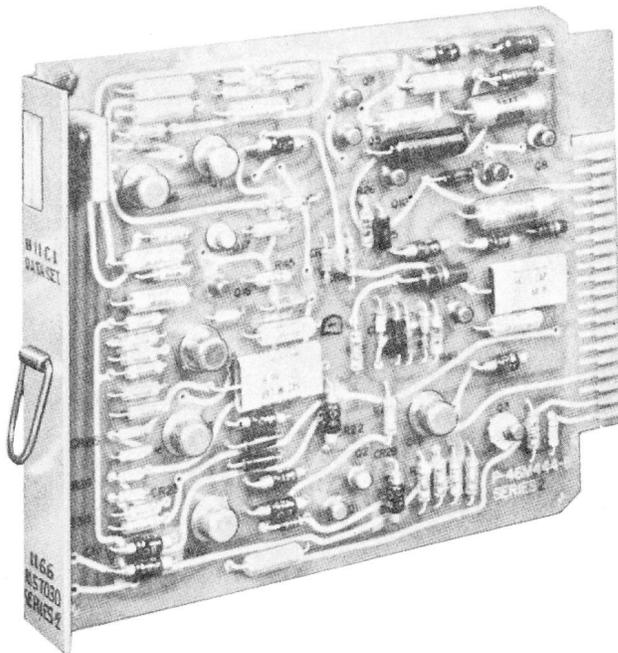

Fig. 1—Data Auxiliary Set 811C
1.01 This section gives a physical description of the central office mounted plug-in Data Auxiliary Set 811C. The section also describes the operation of the data auxiliary set, its function, and the relationship of the equipment to other components in the system. The Data Auxiliary Set 811C is shown by Fig. 1.